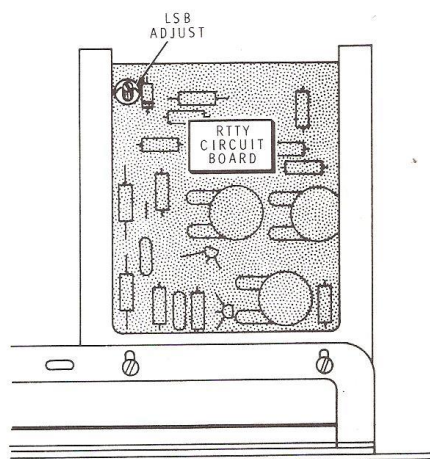

Figure 12
- () Refer to Figure 12 and adjust the LSB ADJUST coil on the LMO until the tone goes lower and lower in frequency and disappears. NOTE: It may be necessary to increase the AF GAIN control while adjusting the LSB ADJUST coil. This LSB ADJUST coil is adjusted with a small screwdriver through a hole in the RTTY circuit board.